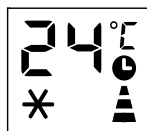

Fig 21
- When the appliance is running, press the  button, the screen will display hours, and several symbols will flash.(fig 21)